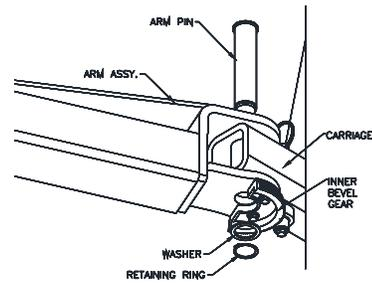

Fig. 17 –Arm Pin Keeper Install
- 40) Install the provided retaining ring onto the pin with tool, **Fig. 17**.